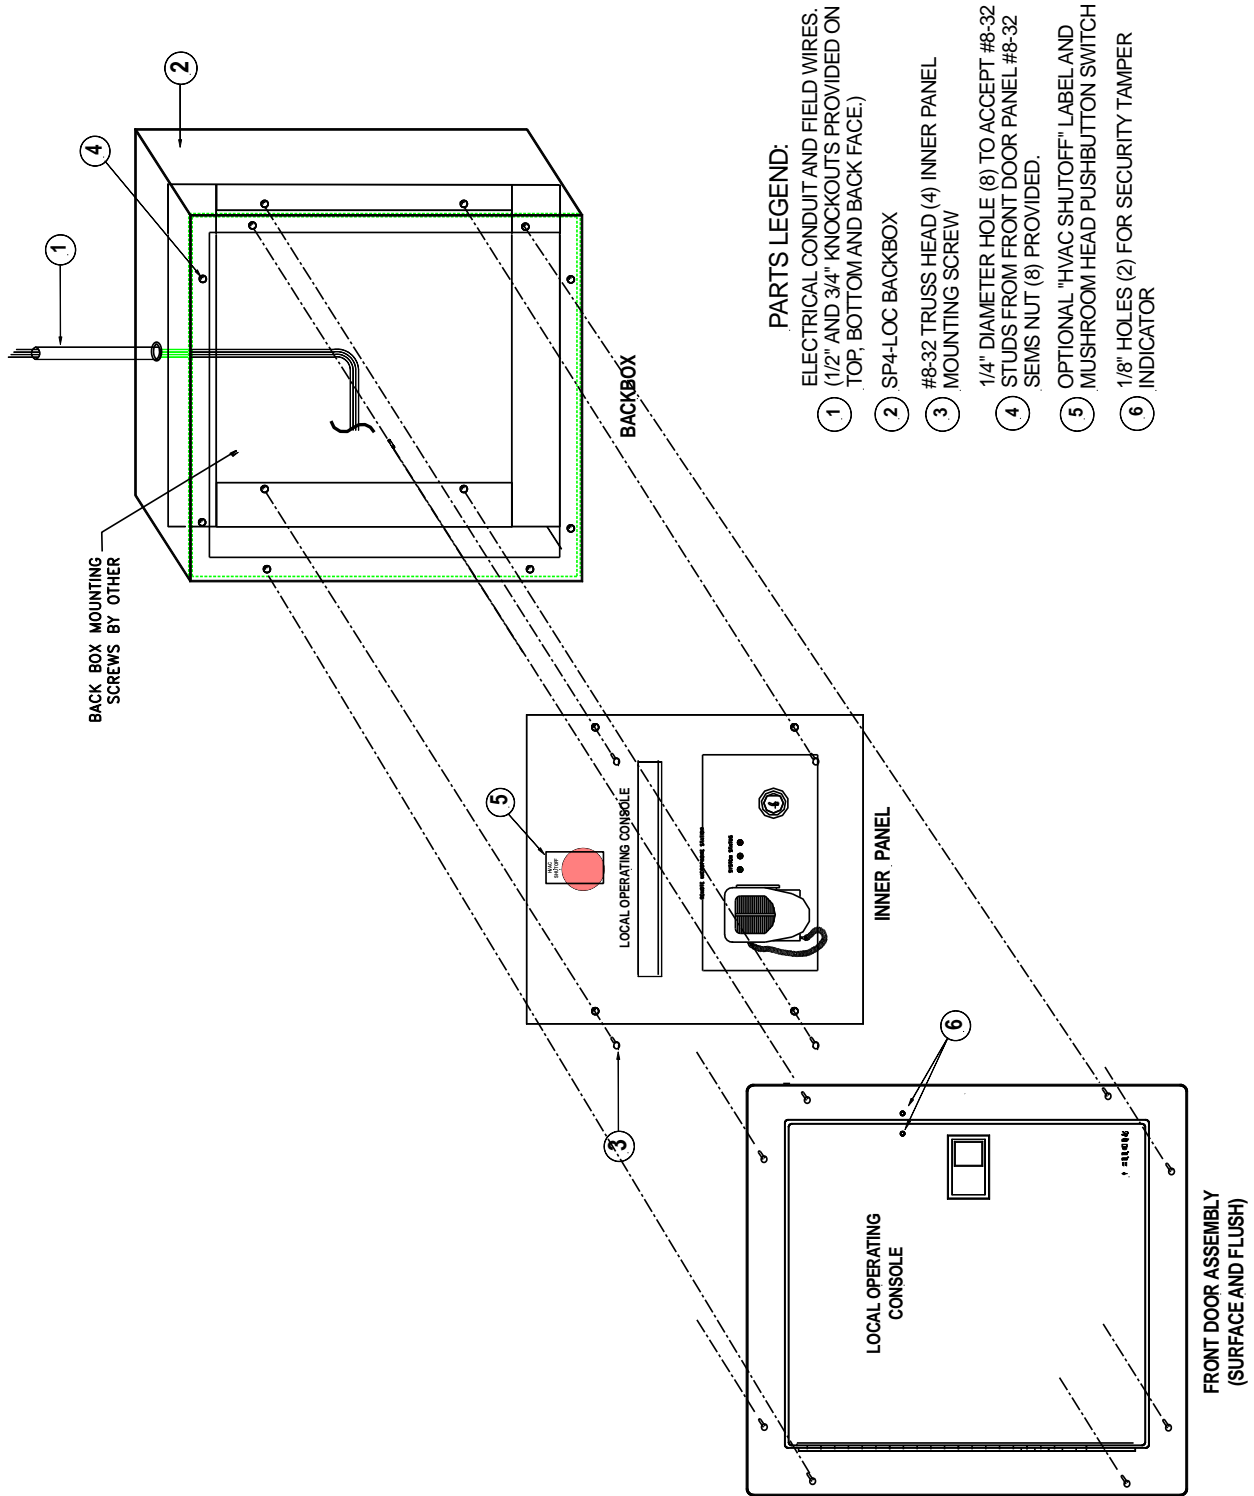

Figure 8: Exploded View of the SP4-LOC
9. Mount the FRONT DOOR to the backbox using the eight washers and #8-32 nuts in the locations shown in Figure 8 (flush-mount only).